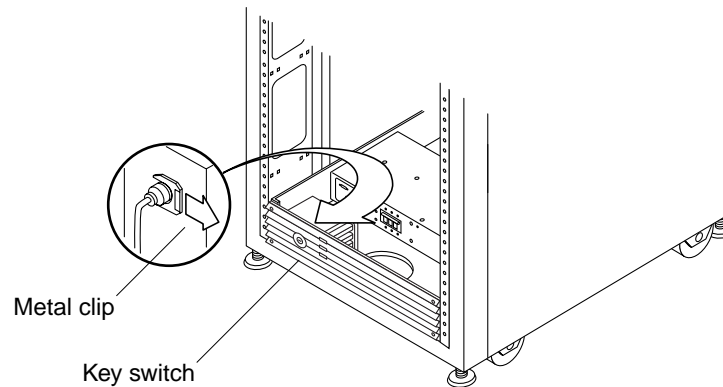

FIGURE 6-8 Removing and Replacing the Key Switch
4. **Facing the back of the key switch on the inside of the storage system, use a pair of needle-nose pliers to slide out and remove the metal clip that secures the key switch to the storage system (FIGURE 6-8).**
2. **Facing the back of the key switch on the inside of the storage system, slide the metal clip onto the notch of the key switch body to secure it in place (FIGURE 6-8).**